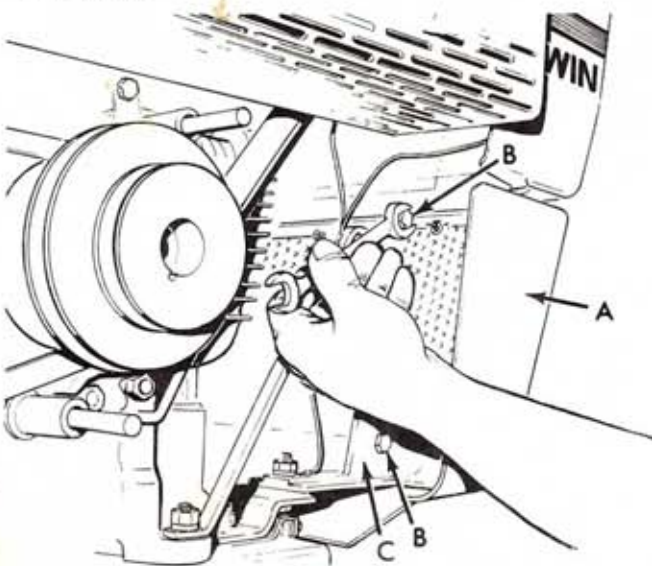

FIG. 4
1. Refer to Fig. 4. Remove R.H. grill side (A) by removing two bolts (B) holding grill side to grill (C). Keep grill side and bolts so that they can be replaced when Shredder is removed.